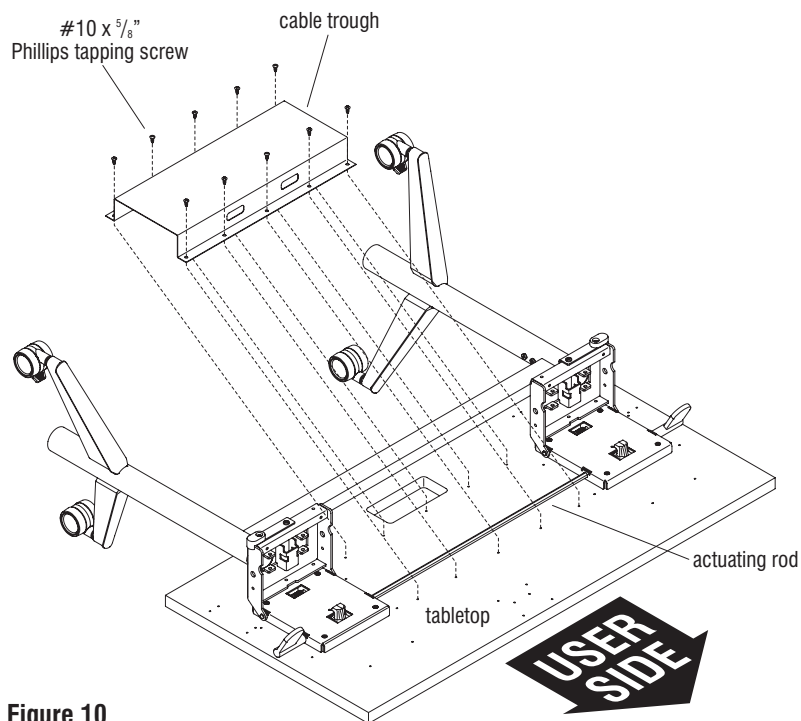

Figure 10
23. Position the cable trough over the tabletop's actuating rod as illustrated, with the two smaller rectangular openings in the trough facing the user side of the table. Align the cable trough mounting holes with the pre-drilled holes in the underside of the tabletop, and secure using ten #10 x  $\frac{5}{8}$ " Phillips tapping screws. Do not over-tighten (Figure 10).